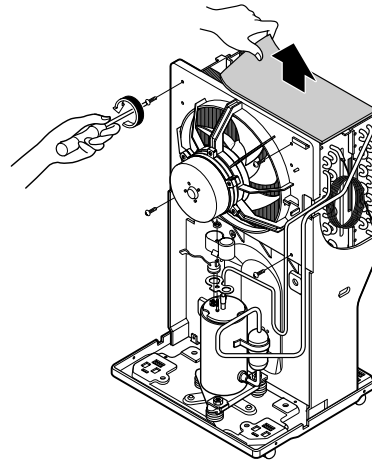

Figure 18
4. After discharging the refrigerant completely, remove 4 screws between the shroud and H/E assembly. (See Figure 18)